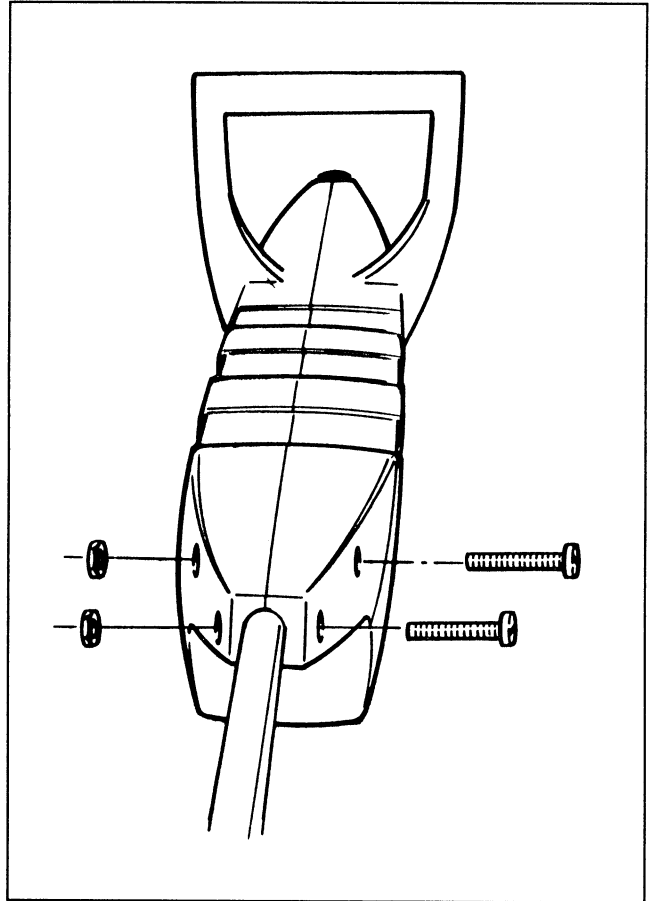

Figure 3
3. Secure battery housing to tube using the (2) screws and nuts supplied (Fig. 3).